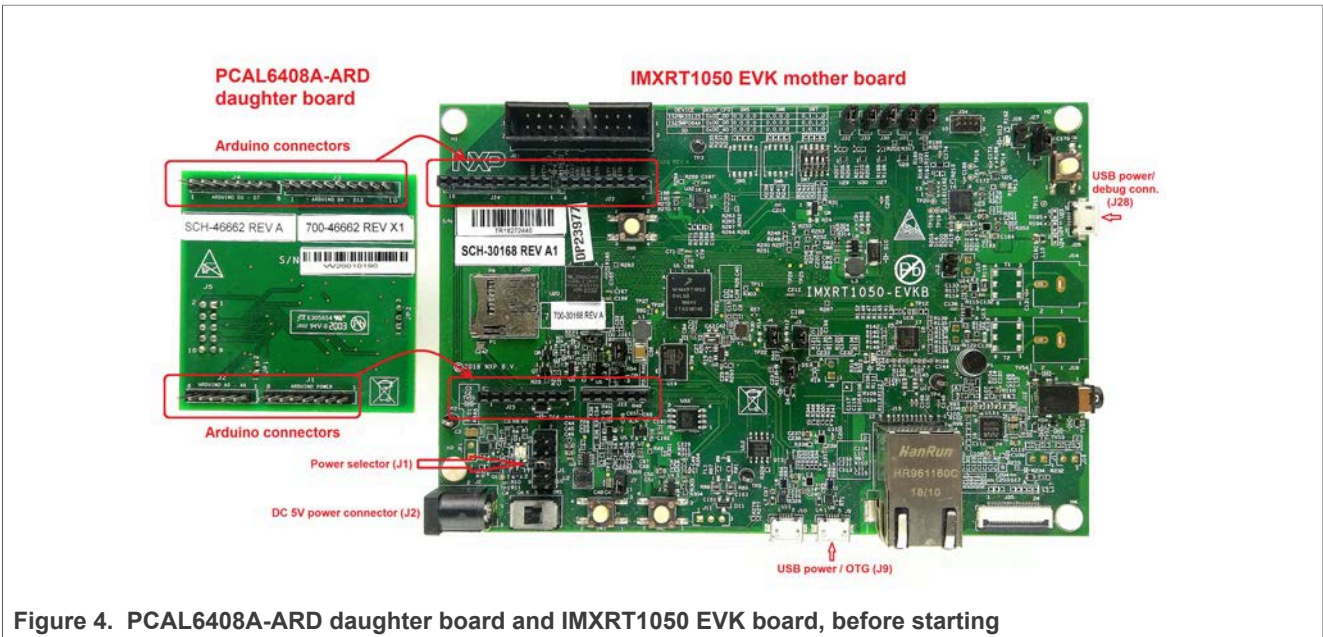

Figure 4. PCAL6408A-ARD daughter board and IMXRT1050 EVK board, before starting
Figure 4 shows the required hardware for operation of the PCAL6408A-ARD daughter board with IMXRT1050 EVK. The following items are necessary:
2. Insert the PCAL6408A-ARD daughter card on the Arduino connector of the EVK (see Figure 4).